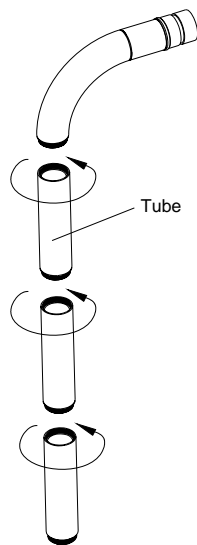
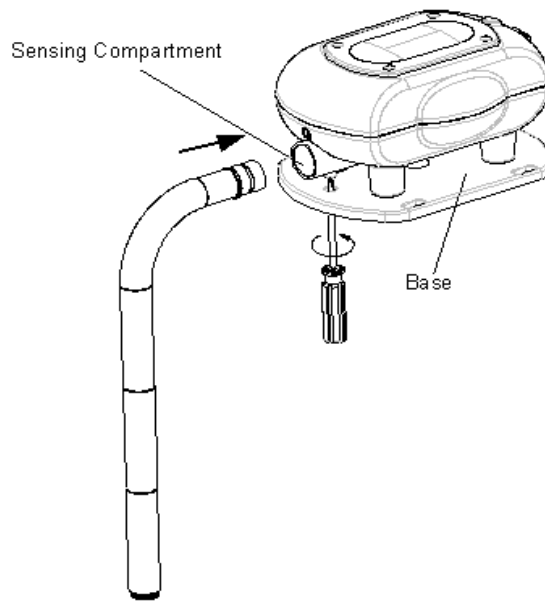
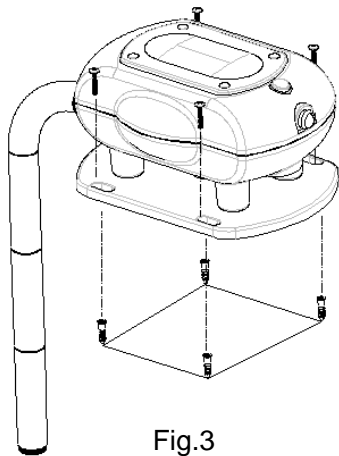

Fig.1
Fig.2
Fig.3
There are four detachable tubes which can be connected to create a single, long tube. (Fig.1 & Fig. 2) You will need to connect the appropriate number of tubes to ensure that the distance from the bottom end of the tube to the water level is 9.65 inches (24.5 cm) (Fig. 3).
2. Insert the tube to the sensing compartment of the Pool Alarm base using the screws provided (Fig. 2)
with a small amount of silicone. Place the unit over the holes and attach using four 30mm screws provided. (Fig.3)